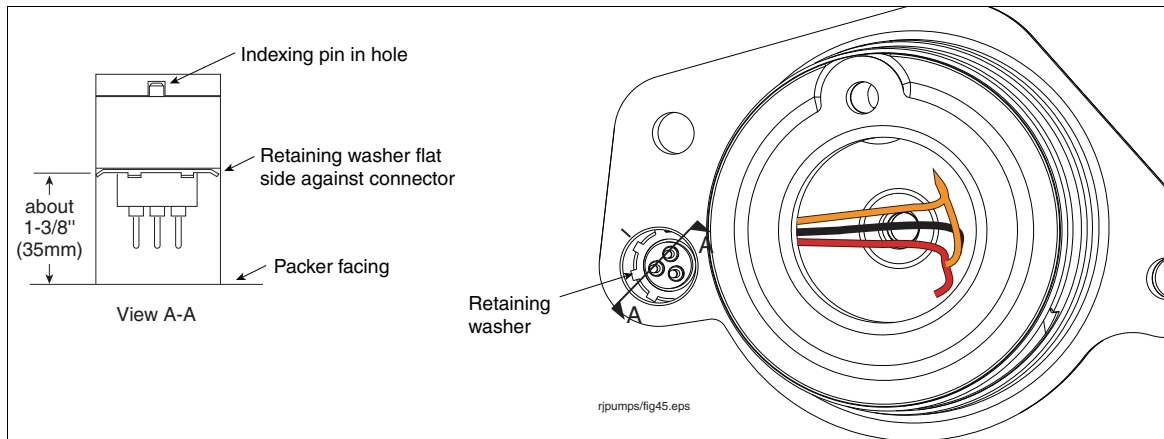

Figure 50. Correct Depth Of Male Connector In Packer Socket
13. Thread the wires of the new male connector down into the socket and out through the opening in the base of the socket into the packer wiring compartment. Gently pull the wires into the wiring compartment as you align the masking tape mark on the connector with the felt tip mark on the packer facing. When you have pushed the connector all the way into its socket it should not rotate if the indexing pin is in the index hole. Using the small ruler, measure the distance from the packer facing down to the connector, it should be a little more than 1-3/8" (35mm) (see Figure 50). Hold the wires tight to keep the connector in position and insert the retaining washer (with upturned teeth facing out) forcing it down until it is firmly against the connector. Recheck the 1-3/8" (35mm) measurement after installing the retaining washer to confirm that the connector is at the proper depth.